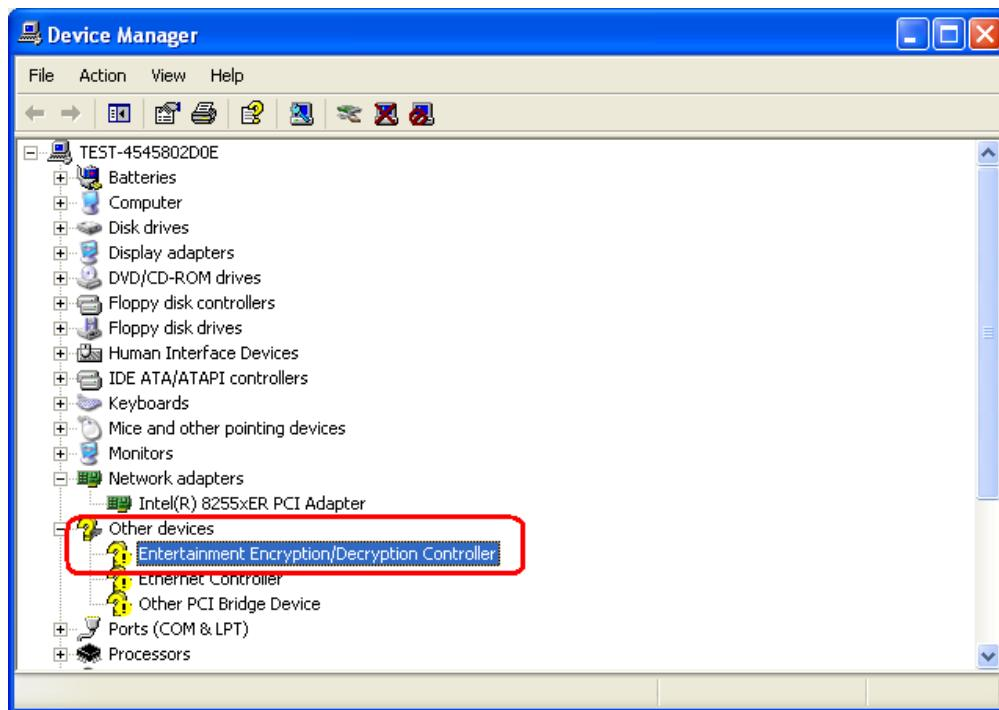

Figure 7-34: Entertainment Encryption/Decryption Controller (Device Manager)
Step 61: Right-click the **ENTERTAINMENT ENCRYPTION/DECRYPTION CONTROLLER** option listed under **OTHER DEVICES** in **Figure 7-34**.